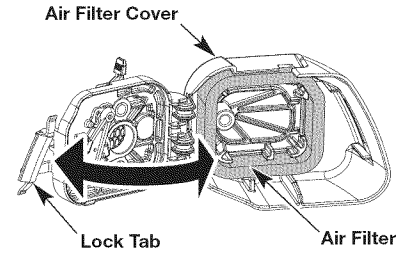

Fig. 14
1. Open the air filter cover by pressing the lock tab in and pulling out on the air filter cover (Fig. 14).
2. Remove the air filter (Fig. 14).
6. Replace the air filter into the air filter cover (Fig. 14).
7. Close the air filter cover by swinging it to the left and then pressing it down until the lock tab snaps into place (Fig. 14).